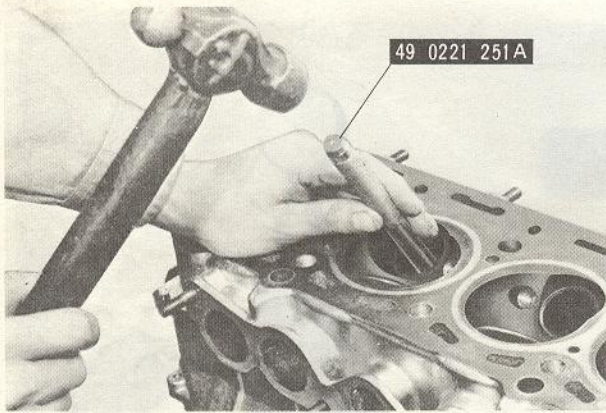

Fig. 1-13 Removing valve guide
1. Press out the old guide with the valve guide remover (49 0221 251A), as shown in Fig. 1-13.